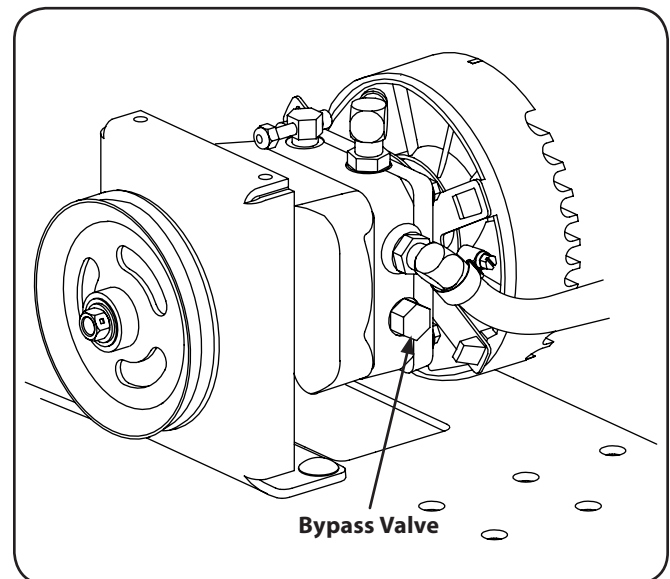

Figure 6-6
1. From just in front of the engine and just behind the seat, locate the transmission bypass valves. Refer to Fig. 6-6.